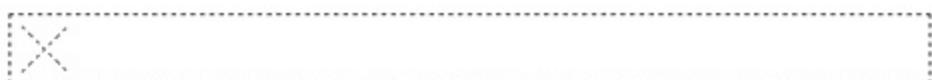

Figure-3. PLC attached to the cursor
- Click on the **OK** button from the dialog box. The PLC will get attached to the cursor; refer to Figure-3.